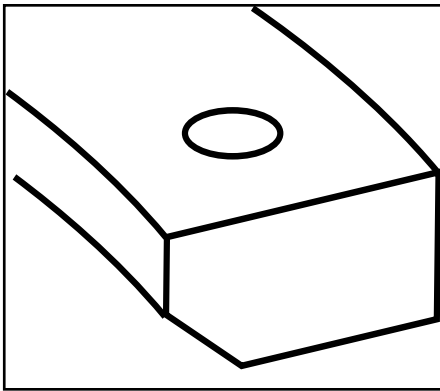

Figure 2
- If ring has dot and inside diameter bevel, dot goes to top of piston. **See Figure 2.**